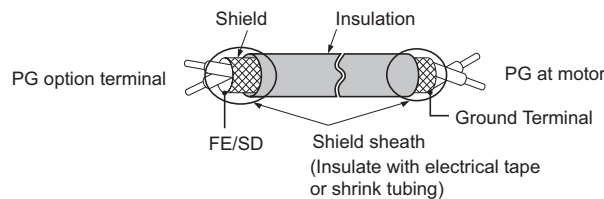
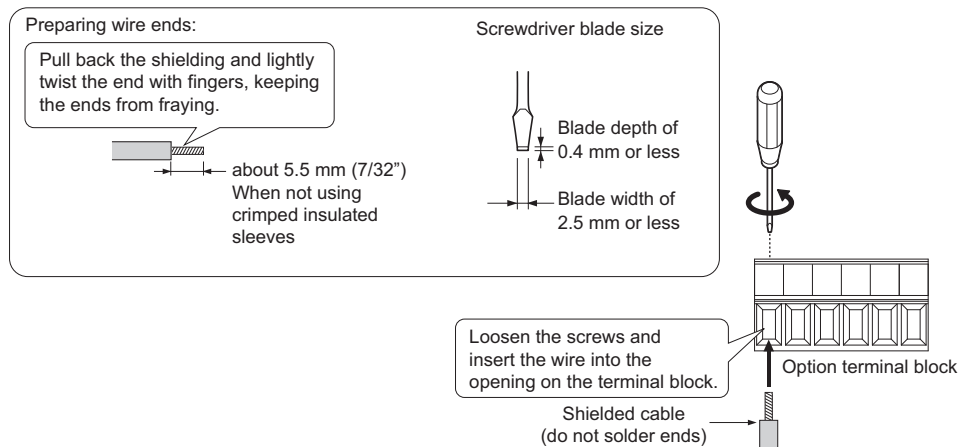

Figure 8.7 Preparing Ends of Shielded Cable
Figure 8.8 Preparing and Connecting Cable Wiring
2. There are two screw holes on the drive for use as ground terminals (H). When connecting three options, two ground wires will need to share the same drive ground terminal.
4. Prepare and connect the wire ends as shown in **Figure 8.7** and **Figure 8.8**. Refer to **Wire Gauges and Tightening Torques on page 436** to confirm that the proper tightening torque is applied to each terminal. Take particular precaution to ensure that each wire is properly connected and wire insulation is not accidentally pinched into electrical terminals.